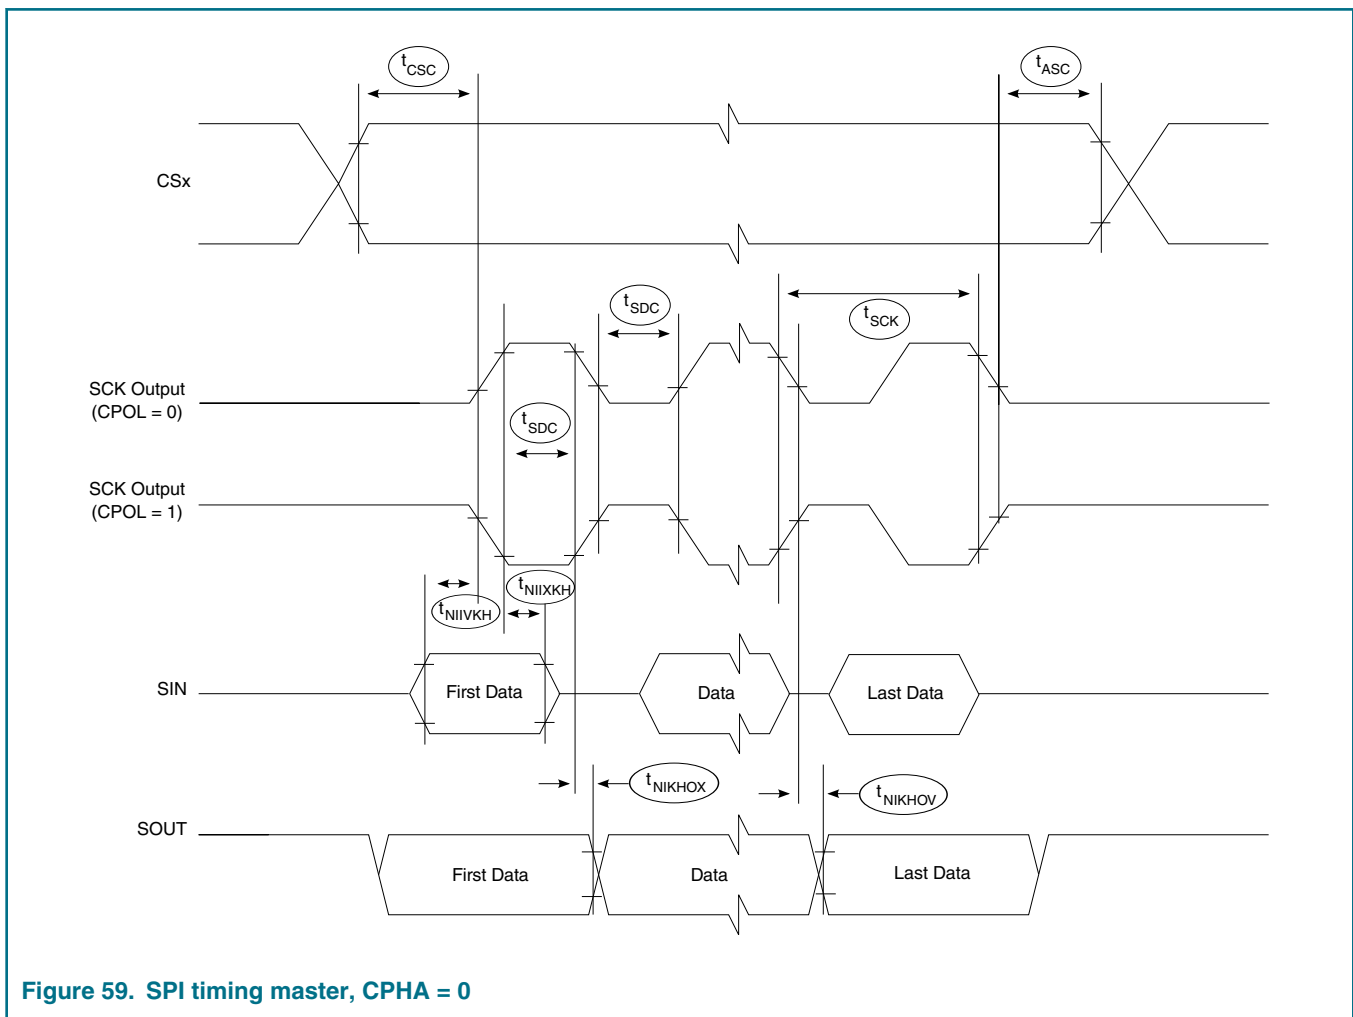
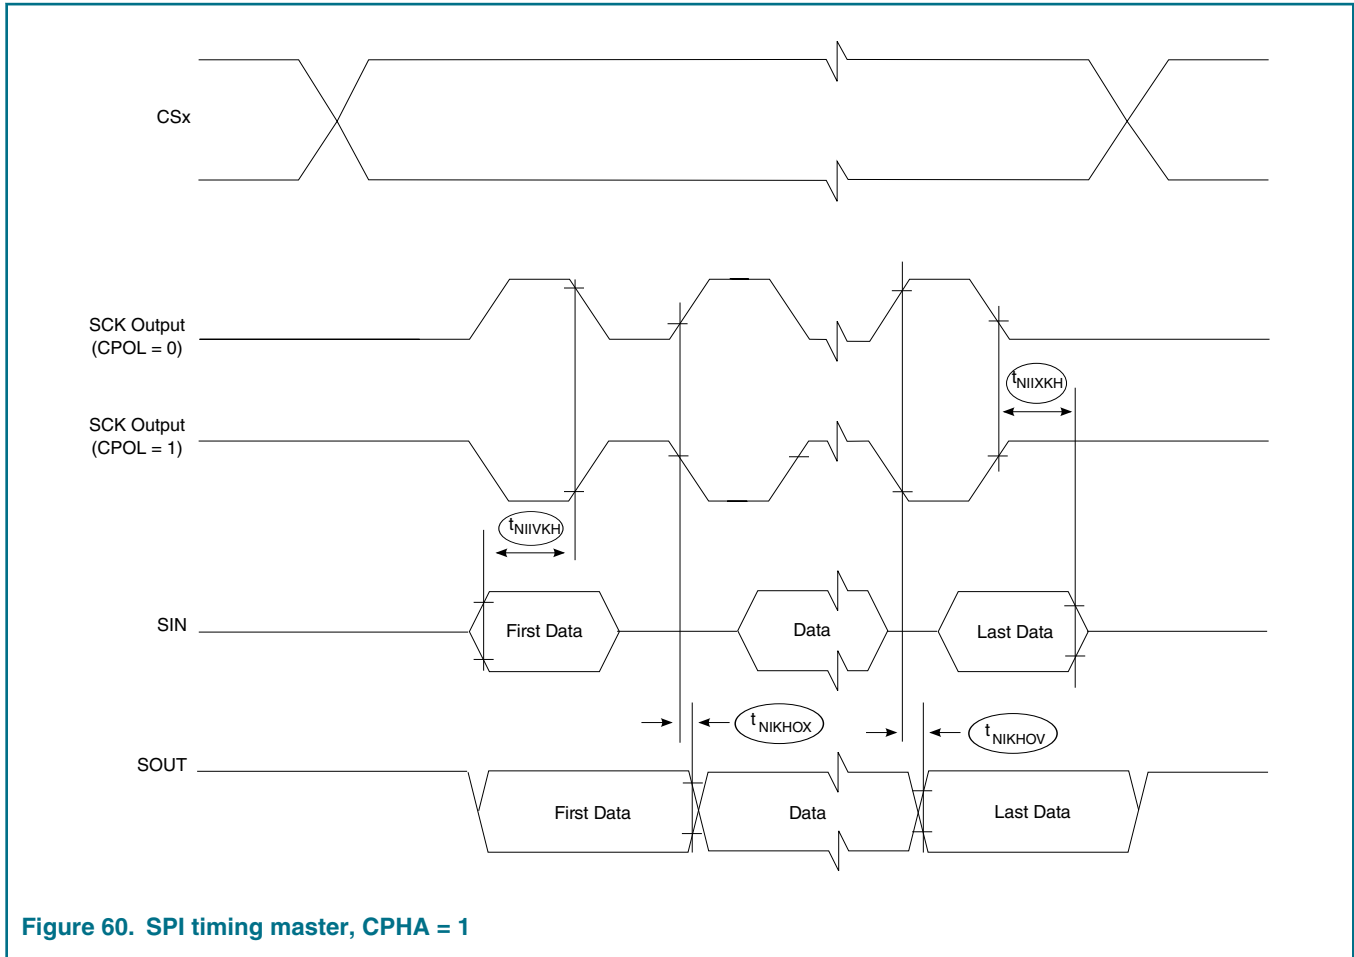

Figure 59. SPI timing master, CPHA = 0
Figure 60. SPI timing master, CPHA = 1
1. Master mode 2. Refer the CTARx register in QorIQ LS1028ARM for more details 3. t_p is the input clock period for the SPI controller. 4. Slave mode 5. See Figure 59. on page 169. 6. See Figure 60. on page 170. 7. See Figure 61. on page 171. 8. See Figure 62. on page 172.